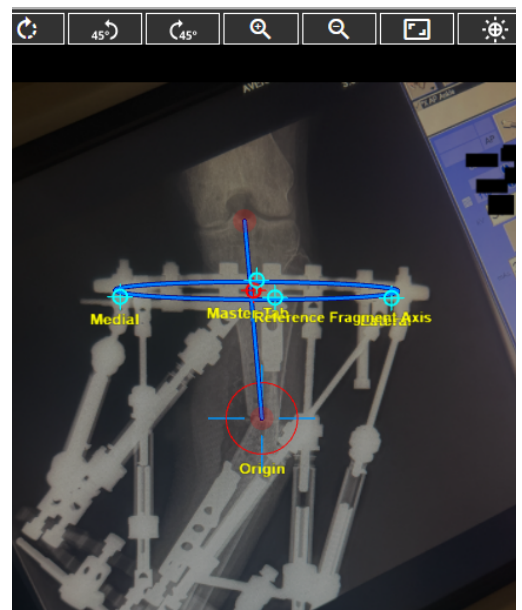

Figure 56
3. Position the opposite end of the origin line as a mid-diaphyseal line extending through the end of the bone segment. (**Figure 56**)